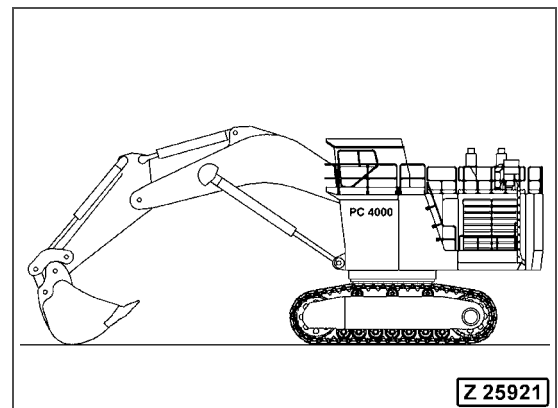

Fig. 5-29
2. Park the machine on the prepared flat area and position the bucket on the ground with the cylinders in partially extended position (Fig. 5-29).